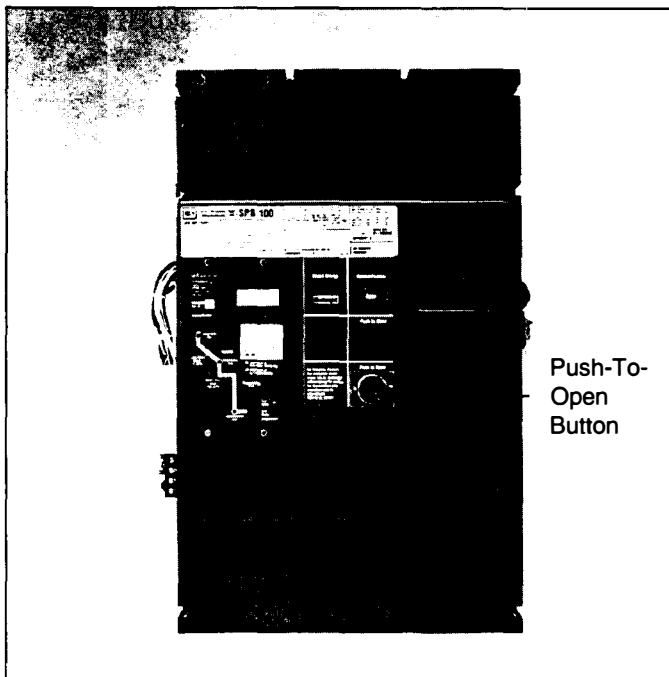

Figure 2-8 OPTIM Trip Unit Mounted in SPB Circuit Breaker
- SPB Pow-R (200-5000 amperes) (Figure 2-8)